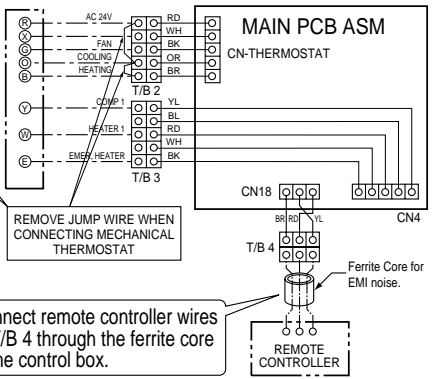

Figure 5D
**■ Heat pump - 1 Comp, 1 Heater(Figure 5D)